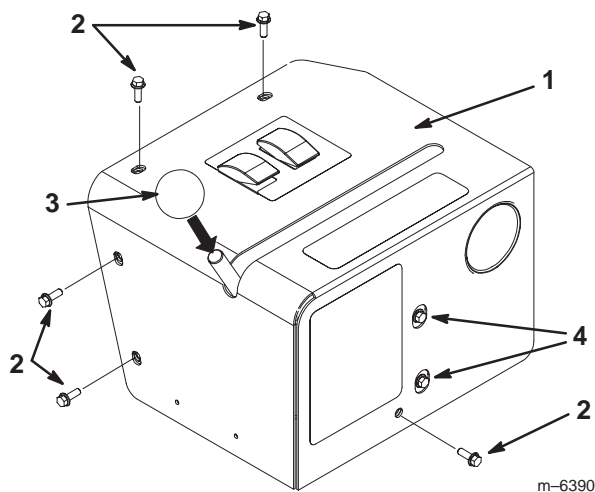

Figure 28
17. Install the control box cover to the control box mounting bracket (Fig. 28), using 5 flange-head bolts (1/4 x 3/4 inch).
18. Install the knob onto the valve control lever (Fig. 28).
19. If necessary, loosen bolts on the front panel and reposition valve assembly to allow free travel of the lever in the slot (Fig. 28).